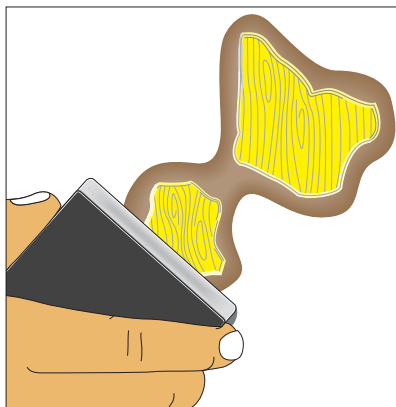

Figure 2-1:
- ✓ **Old painted cladding:** Scrape off loose paint, using a scraper. Then power-sand to feather the hard edges left by scraping (as shown in Figure 2-1), prime any wood made bare in the process, and caulk all joints. Also, push in any popped nails and fill the holes with caulk.